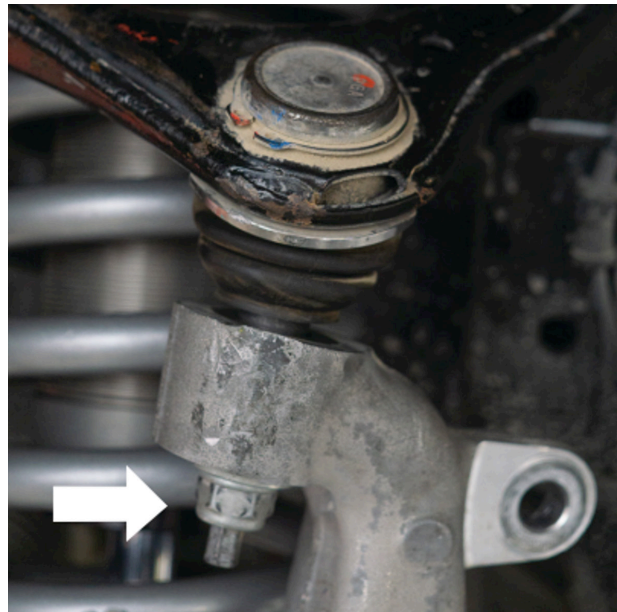

Fig. 9: Reattach UCA to upright.
3. Reattach the UCA to the upright using the ball joint bolt. Use a pry bar to apply leverage to the UCA and lower into position on the upright. Reinstall the nut and torque to OEM specification (Fig. 9).